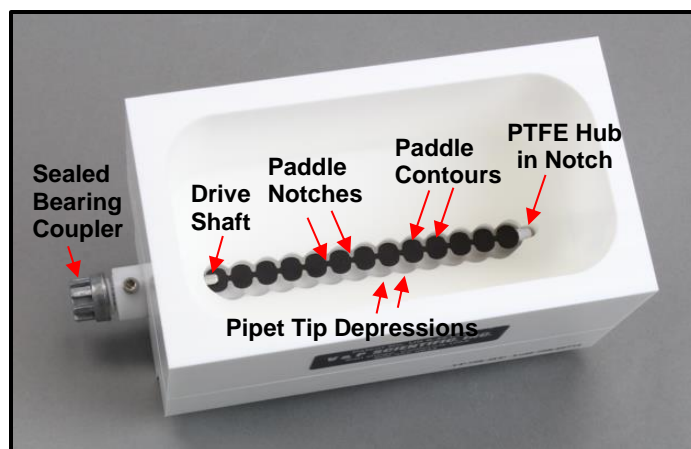

Figure 3. Close-up view of the 12 channel Bubble Paddle Reservoir features.
- 2) If using with an automated liquid handler, place the VP 767-5A motor assembly on the deck using the robot-specific locating features. Position the pipet tips to be aligned with the notches in the bubble paddles and the depressions in the VP 758 series Bubble Paddle Reservoir (see Figure 3).